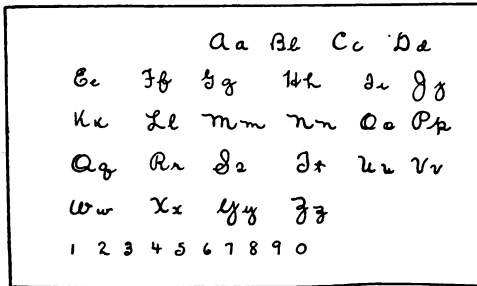

Fig. 1.—Penmanship chart
1. *Instruction in penmanship.*—*a.* Assemble the class and with the students studying Figure 1 of the Student's Manual go over carefully with them the formation of each of the 7 characters taken up in the Unit Operation. Direct the students to practice writing the characters of the Unit Operation, both capitals and small letters, being careful to follow the standard scale.